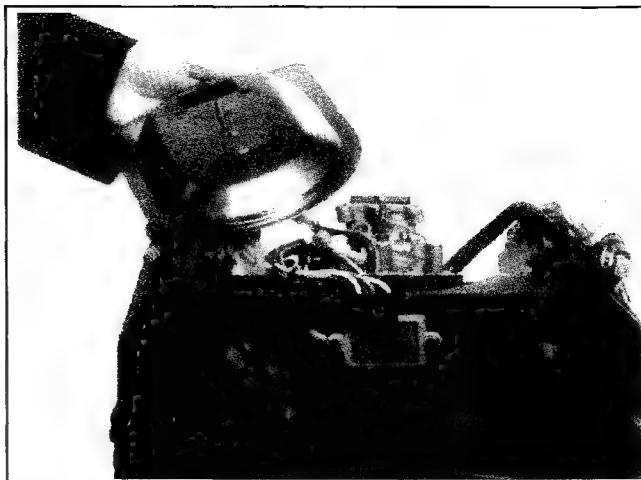

Figure 4-7. Removing Base on Standard Type Air Cleaner.
2. Remove the hex. flange screws securing the bracket (top tank version) and base (Figure 4-7).